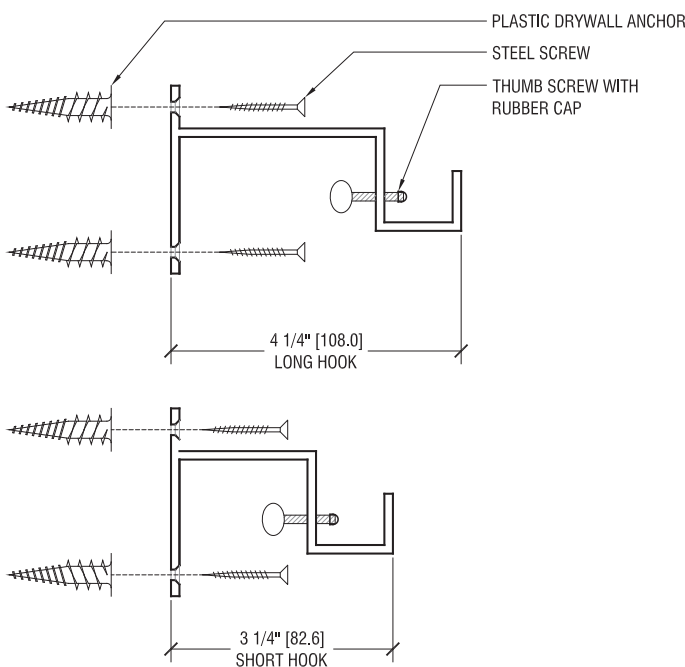

Figure 1. Pool wall-hook information
- 2 *Pool* wall hooks come in two sizes (*Figure 1*). Sort your wall hooks into two groups based on size. The two sizes/lengths of wall hook allow for the slight layering and overlapping of the *Pool* wallpieces. The largest size of *Pool* wallpiece (24" / 61cm) should only be mounted using the shorter of the two hooks. The other three sizes of *Pool* wallpieces can be hung on either the short or long hooks.